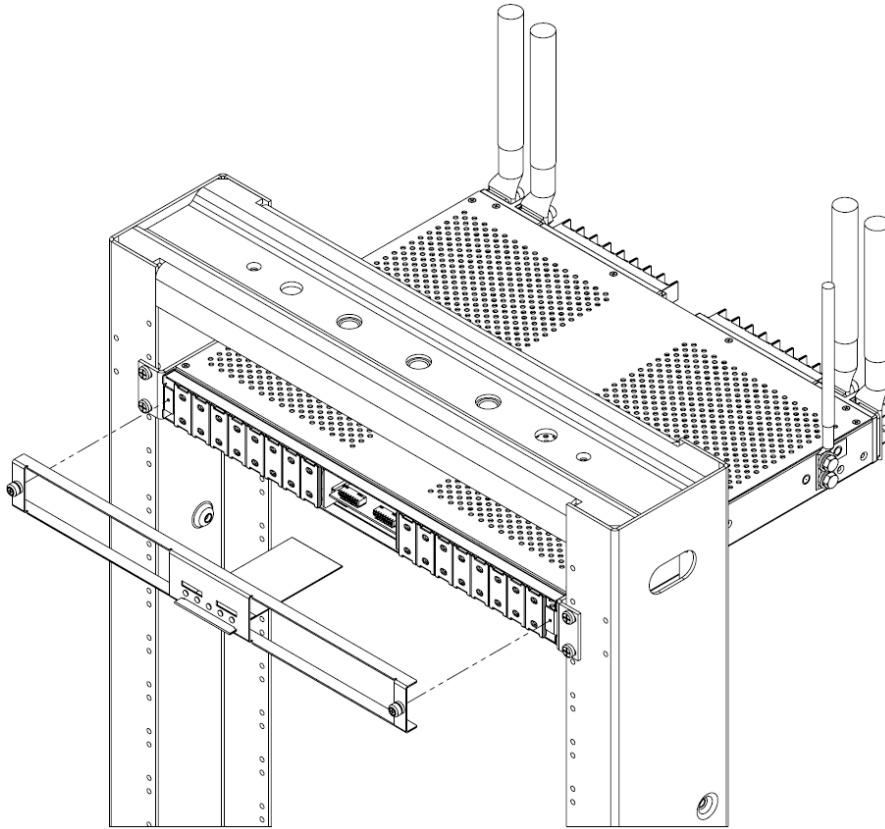

Fig. 2-8: Removing the Front Cover
19. Remove front cover by unscrewing thumb screws or using Phillips screwdriver, as shown in Fig. 2-8. Once the front cover has been taken off the panel, remove and discard the small pink packaging foam piece inside the front cover. Re-install front cover.